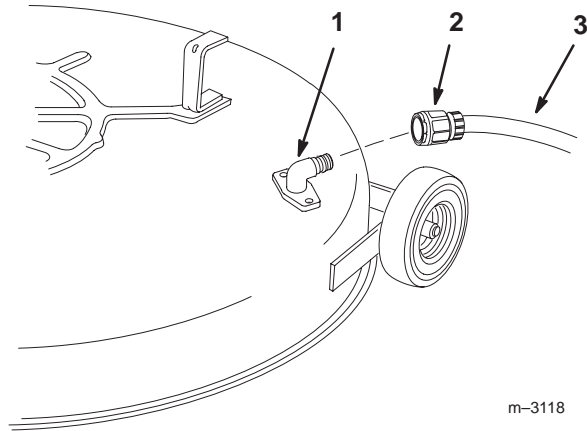

Figure 33
2. Attach hose coupling to the end of the mower washout fitting, turn water on high (Fig. 33).